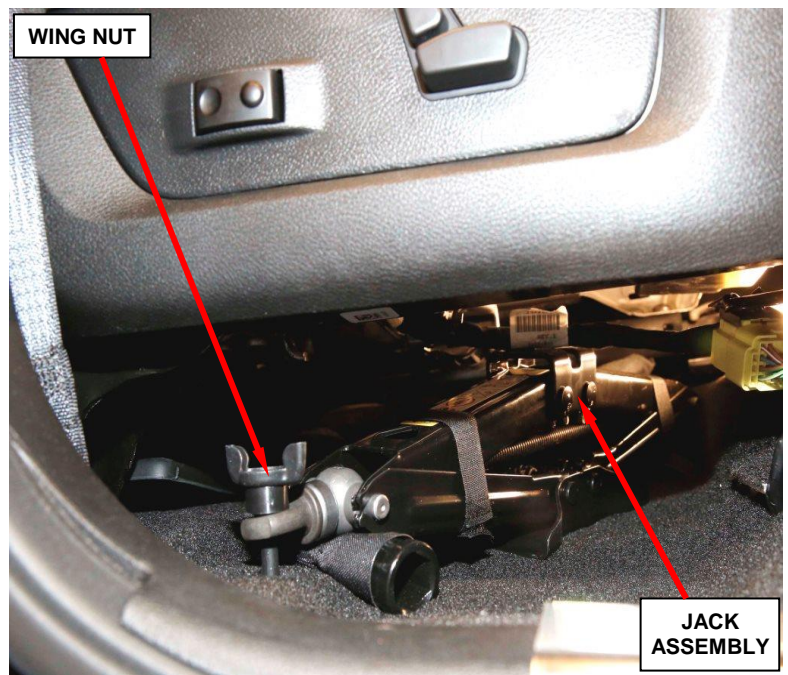

Figure 7 – Return Jack and Tools to Stored Location Under Right Front Seat
14. Store and secure the jack tools back under the right front seat (Figure 7).